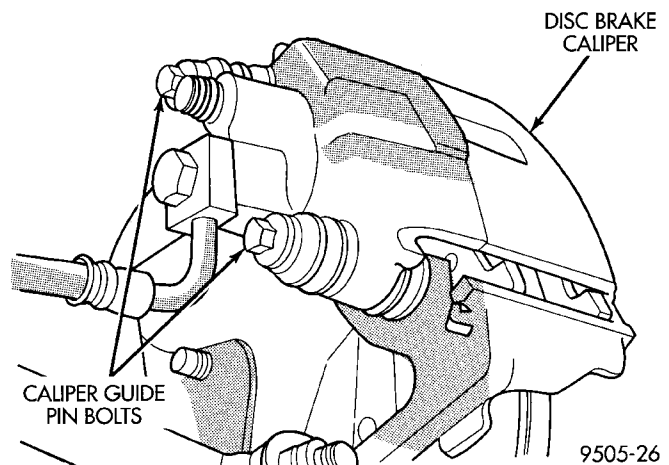

Fig. 72 Caliper Assembly Guide Pin Bolts
(1) Raise vehicle on jackstands or centered on a hoist. See Hoisting in the Lubrication and Maintenance section of this manual.
(2) Remove rear wheel and tire assemblies from vehicle.
(3) Remove the 2 caliper assembly to adapter guide pin bolts (Fig. 72).
(8) Install caliper assembly guide pin bolts into adapter and tighten (Fig. 72). Then torque both guide pin bolts to 22 N·m (192 in. lbs.).
(9) Install the wheel and tire assembly.
(10) Tighten the wheel mounting stud nuts in proper sequence until all nuts are torqued to half specification. Then repeat the tightening sequence to the full specified torque of 135 N·m (100 ft. lbs.).
(11) Remove jackstands or lower hoist. **Before moving vehicle, pump the brake pedal several**